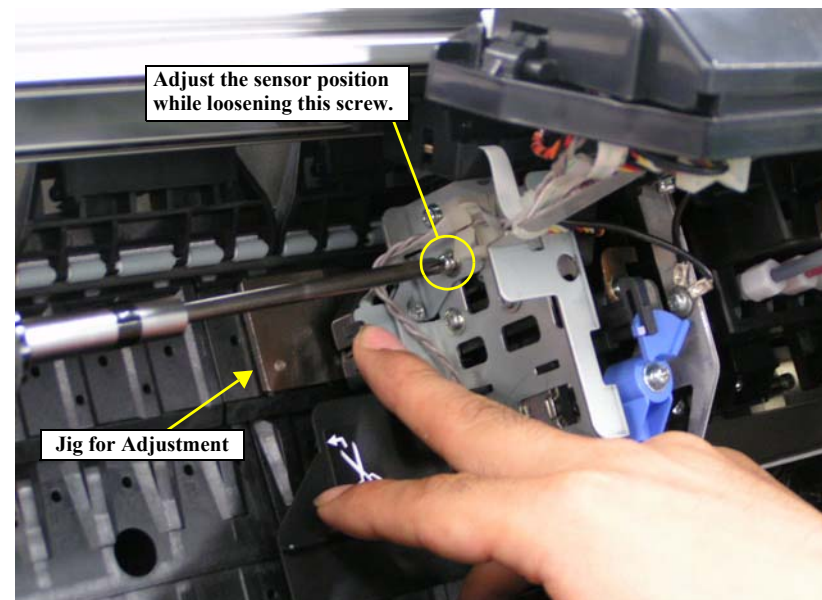

Figure 5-5. Ink Mark Sensor Height Adjustment (1)
2. Loosen the screw that secures the Ink Mark Sensor to the Carriage Unit as shown in Figure 5-5, and adjust the position of the sensor so that it contacts with the jig. Then tighten the screw.